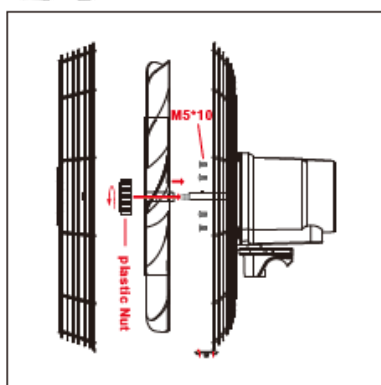

Figure3 & 4
- Use the four M5\*10 screws to secure the rear cover to the motor (figure 3).